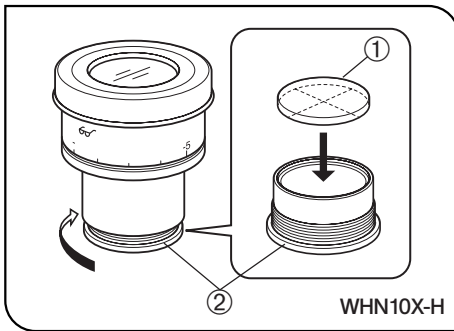

Fig. 11
4 Mounting the Eyepiece Micrometer Disk (Figs. 11 & 12)
Following Fig. 11, turn the built-in micrometer-mounting frame ② to the arrow direction to remove it from the eyepiece and place a micrometer disk ① into the mounting frame so that the surface with the model indication faces downward.